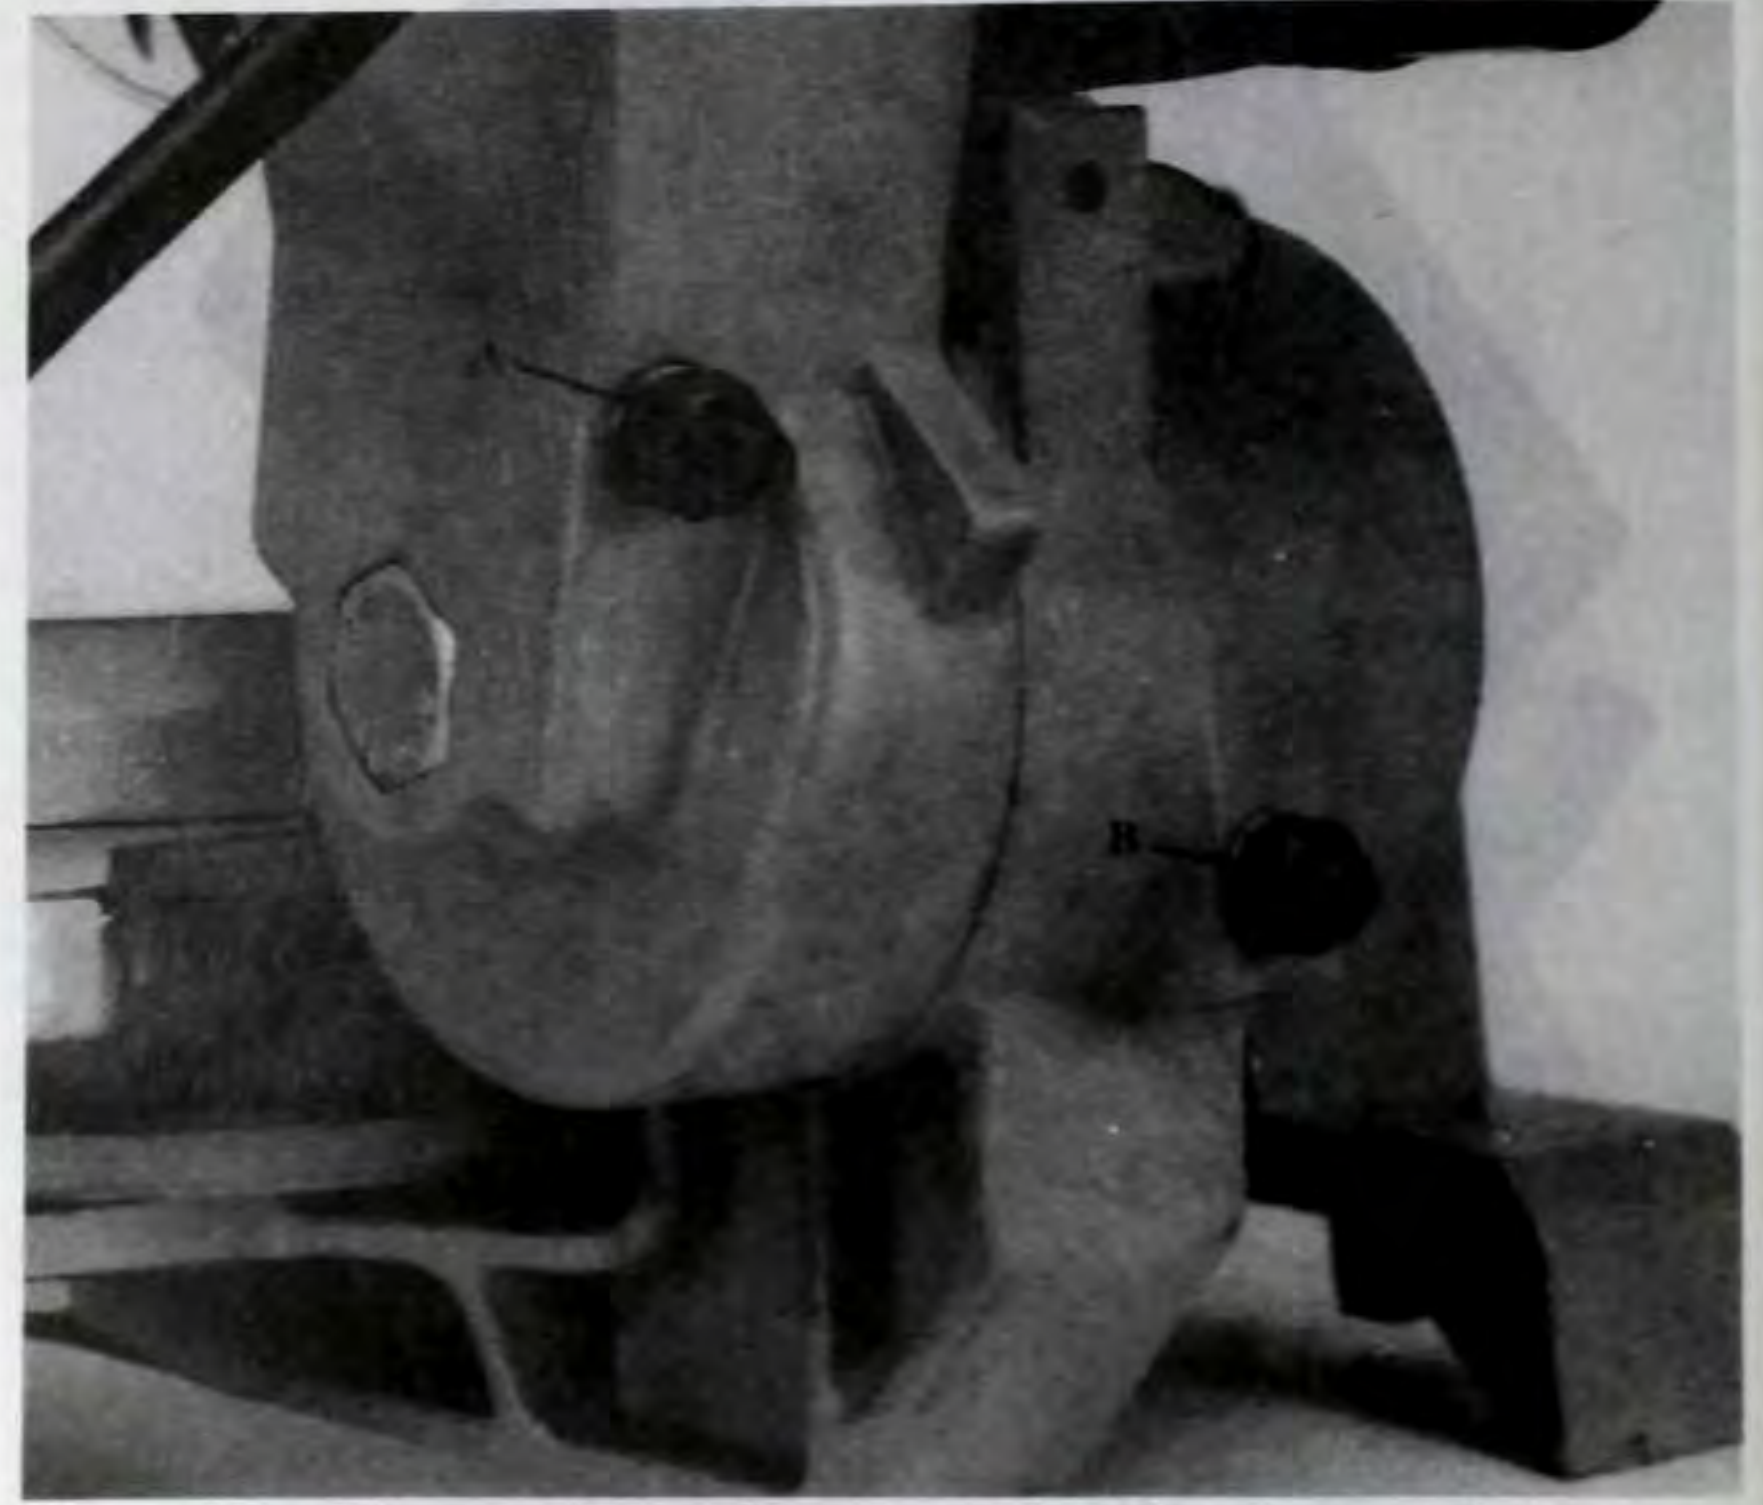

Figure 12. Adjustments for blade travel and spring tension.
Adjust blade travel and spring tension. Downward travel of the blade is adjusted to prevent the blade from contacting metal surfaces. In the event that an adjustment needs to be made, loosen locknut (A) as shown in Fig. 12 and turn the adjustment screw clockwise or counterclockwise until the blade stops at the proper location. When the blade stops at the desired position, short of obstructions, tighten the locking screw. Then double check to make sure the blade does not contact any obstructions. Only then should you reconnect the electrical cord and operate the tool.
You may need to adjust the spring that automatically returns the motor with blade to the upright position. If the unit does not return upright or returns slowly, adjustment is necessary. Again refer to Fig. 12. Loosen the locking nut (B) and turn the adjusting screw clockwise to increase tension. When it is at a suitable tension, retighten the locking nut and check the tension.